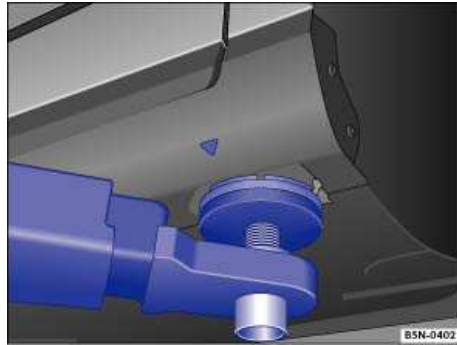
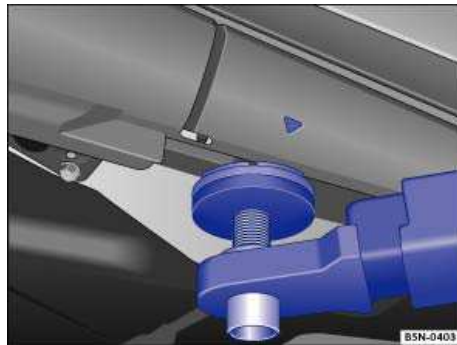

Fig. 179 Front lift point for workshop hoist or floor jack.
Fig. 180 Rear lift point for workshop hoist or floor jack.
The vehicle may only be raised at the lift points shown in illustrations ⇒ fig. 179 and ⇒ fig. 180. If the vehicle is lifted at different points, vehicle damage ⇒  and serious injuries may occur ⇒ .
- Always lift your vehicle only at the designated lift points shown in the illustrations ⇒ fig. 179 and ⇒ fig. 180. Not using the designated lift points can cause the vehicle to fall off the floor jack when heavy parts such as the engine or transmission are removed.